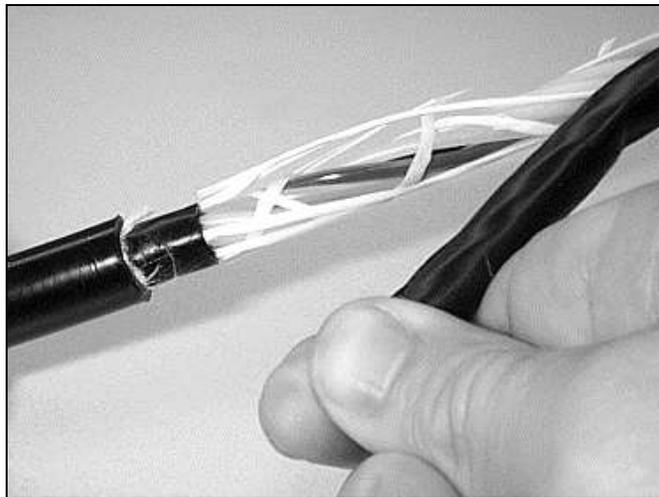

Figure 31 - Remove the inner jacket.
6.14 Use a sheath knife to make a longitudinal cut through the inner jacket between the two ring cuts. Remove the inner jacket (Figure 31).